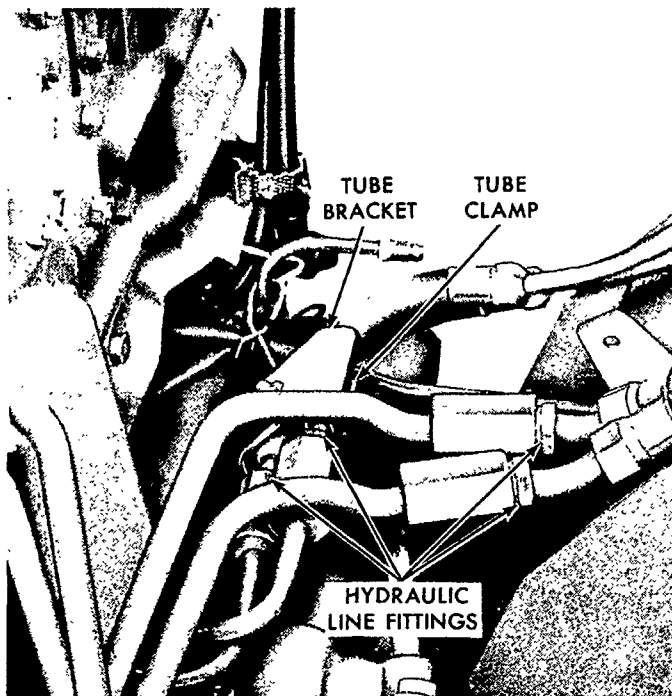

Figure 81
4. Position the right-hand hydraulic lines against the tube bracket, and secure with the tube clamp, lock washer and bolt as shown in Figure 81. Tighten the clamp bolt to a torque of 35-45 lbs. ft. (4.84-6.22 kgm).